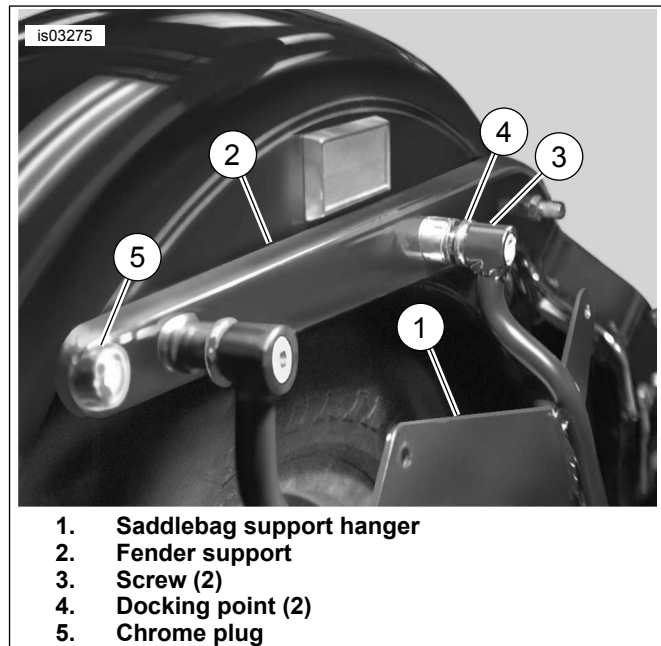
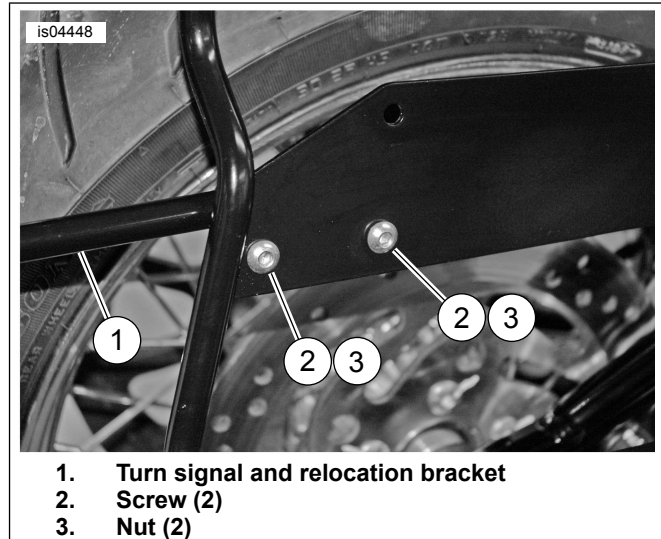

Figure 9. Install Saddlebag Support Hanger
Figure 10. Install Turn Signal and Relocation Bracket
1. See Figure 9. Install saddlebag support hanger (1) to fender support (2) and fender using two screws (3) and original stud plate.
3. If docking hardware is used, install docking points (4) between fender support and saddlebag support hanger.
4. Press chrome plug (5) from wiring kit into hole to cover original turn signal location.
6. See Figure 10. Install turn signal and relocation bracket (1) to saddlebag support hanger using two screws (2) and nuts (3).